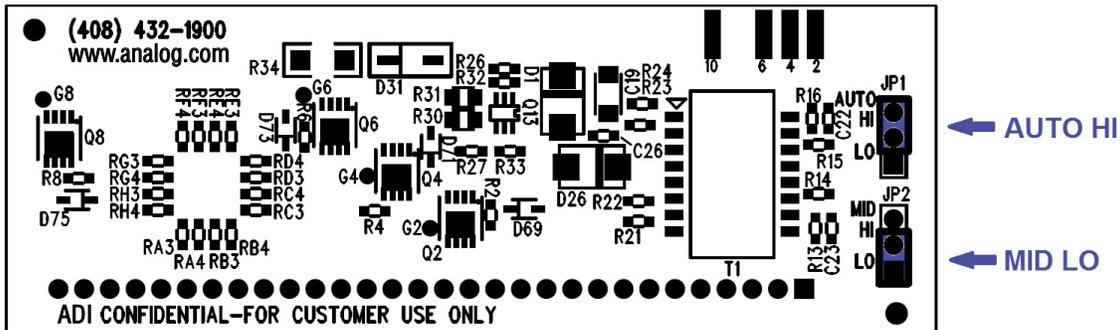

Figure 1. DC1842 Backside. Setting AUTO and MID Jumpers
Demonstration kit DC1843B includes the DC1842B daughter card and DC1680B motherboard. The kit is set up for evaluating the LTC4290B/LTC4271. Follow the procedure below and refer to Figures 1 through 4 for proper equipment setup.
1. On the DC1842B set AUTO jumper JP1 to HI (Figure 1) to enable AUTO pin mode.
2. On the DC1842B set MID jumper JP2 to LO (Figure 1) to disable midspan mode.